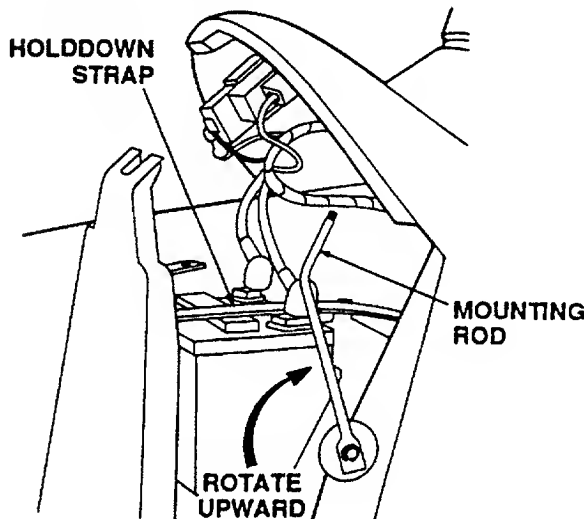

Figure 31
3. Rotate the mounting rod fully upward toward the dash panel to provide clearance for battery removal (See Figure 31).